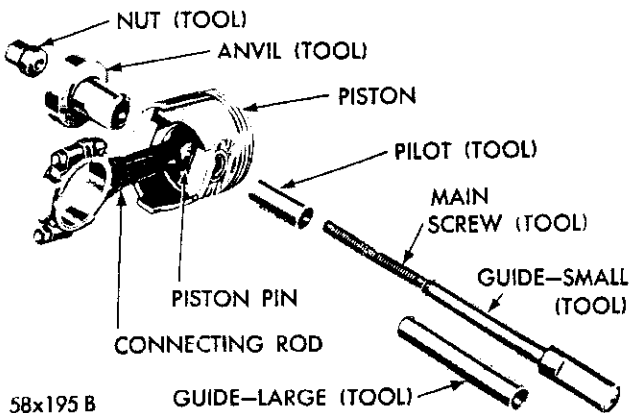
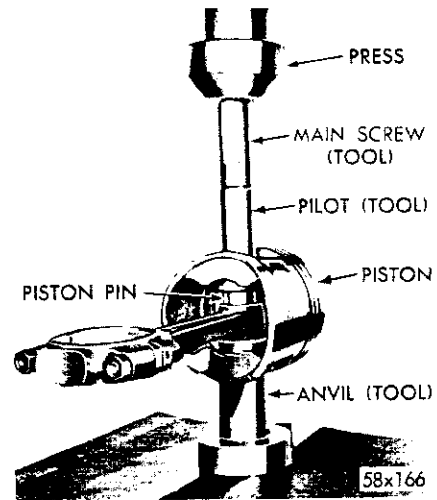
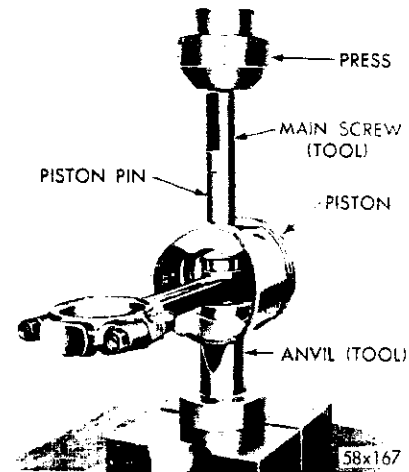

Fig. 42—Tool Arrangement for Removing Piston Pin
Fig. 43—Removing the Piston Pin from the Connecting Rod
Fig. 46—Installing the Piston Pin in Connecting Rod
- (1) Arrange Tool C-3624 parts for the removal of piston pin, as shown in Figure 42.
- (2) Install pilot on the main screw.
- (3) Install the main screw through the piston pin.
- (4) Install anvil over the threaded end of the main screw with small end of anvil against the piston boss.
- (5) Install nut loosely on the main screw and place the assembly on a press as shown in Figure 43.
- (6) Press the piston pin out of connecting rod.
- (7) Remove the tool from the piston.
(8) Install the nut on puller screw to hold assembly together. Place assembly on a press, as shown in Figure 46.
(9) Press in the piston pin until piston pin "bottoms" on the pilot properly positioning the pin in the connecting rod.
(10) Remove the tool and arrange tool parts and piston assembly in the same manner, as shown in Figure 42.